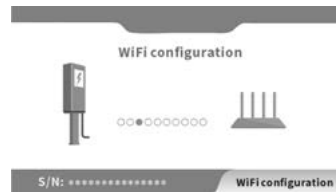

Fig.1 / WiFi configuration
5. Press and rotate to reset the emergency stop button three times in succession until the four indicator lights illuminate in a cycle corresponding to the running lamp mode. At the same time, the LCD screen changes to the WLAN configuration page. Click the „CONFIRM“ button of the APP on the smartphone (Fig.1).